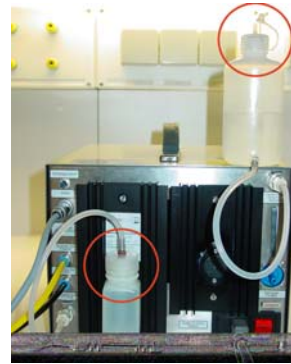

Fig.3: Peripheral accessories
- Note:** loosen taps of both to enable ventilation (see figure 3).
5. Switch on the CPC (red wipe switch at the rear panel – see fig.3); CPC enters into CHARGE MODE (figure 5).
**Note:** make sure the battery charge fuse is not broken (above wipe switch – see fig.3);